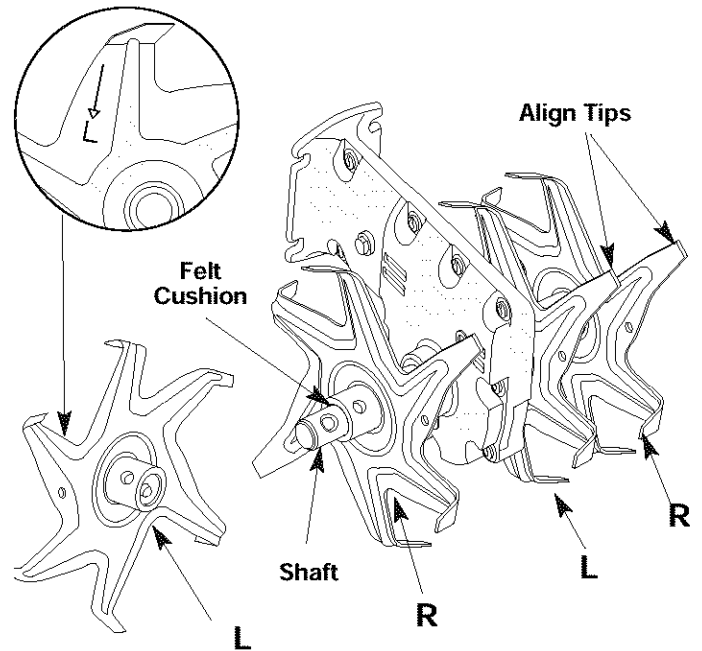

Fig. 7
7. Ensure the tips on tines are aligned in the same direction with each other before reinstalling the clevis pins and pin clips (Fig. 7).